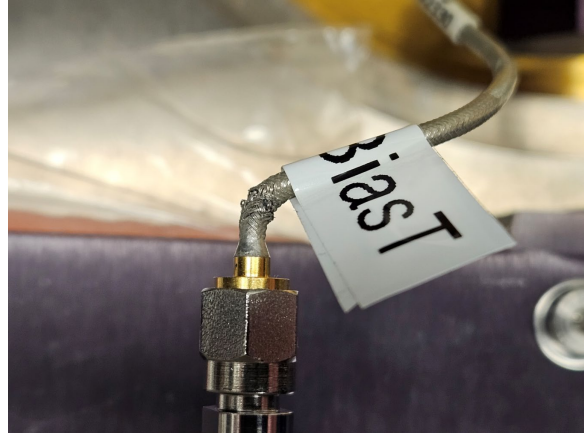

Fig. 3.2. An abused cable.
- 3.11 Use one hand to carefully align the semiflexible cable to the connector on the probe. **Do not overbend the cable because it is only semiflexible with a minimum bending radius!** Fig. 3.2 illustrate an abused cable that has to be replaced. The cable is bent so sharply next to the connector that the steel woven sheath is broken. Make sure the faces of the cable and probe connector are parallel, so they can easily be screwed together by the other hand all the way until the last turn. Otherwise, unscrew them and try again. The nut on the connector should push the center pin of the connector straight in to and out of its receptacle on the probe. If the center pin